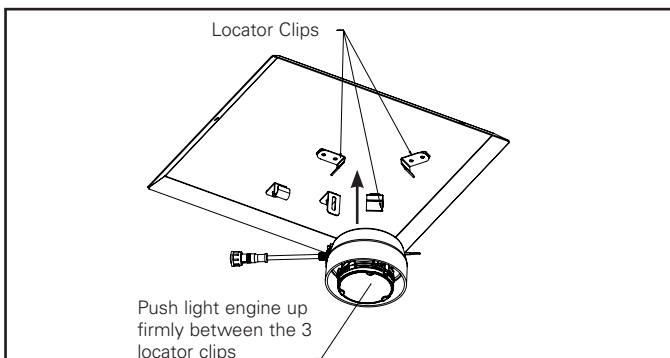

Figure 19.
9. Push light engine into the ceiling firmly between the 3 locator clips until it is flush with the lid. Ensure the light engine is flush with the top cover of the housing (fig 19). Light engine is magnetically attached, no additional assembly required once it touches the top.